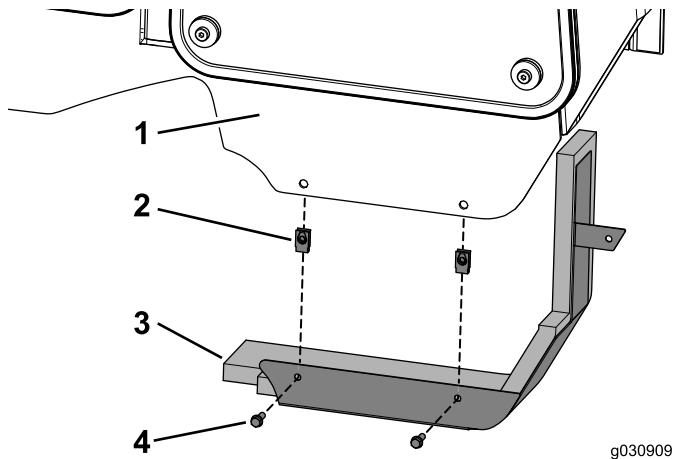

Figure 26
1. Install the 2 clip nuts on to the cab frame (Figure 26).
2. Secure the panel assembly to the cab using the 2 bolts (1/4 x 3/4 inch) as shown in Figure 26.